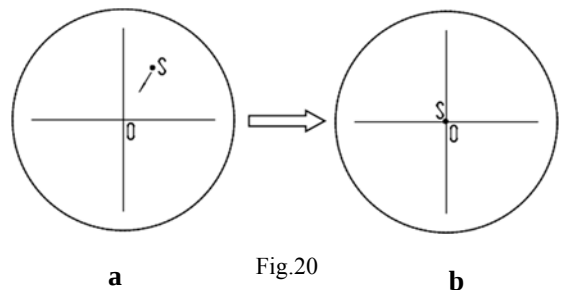

Fig.20
- a. Push in push-pull rod, observe with eyepieces. Find a feature point in the field of view (a readily identifiable target, such as S point in Fig. 20-a), move it to the center of the field of view. If there is a division eyepiece, move the target to the reticle intersection of the division eyepiece, as shown in Fig. 20-b.